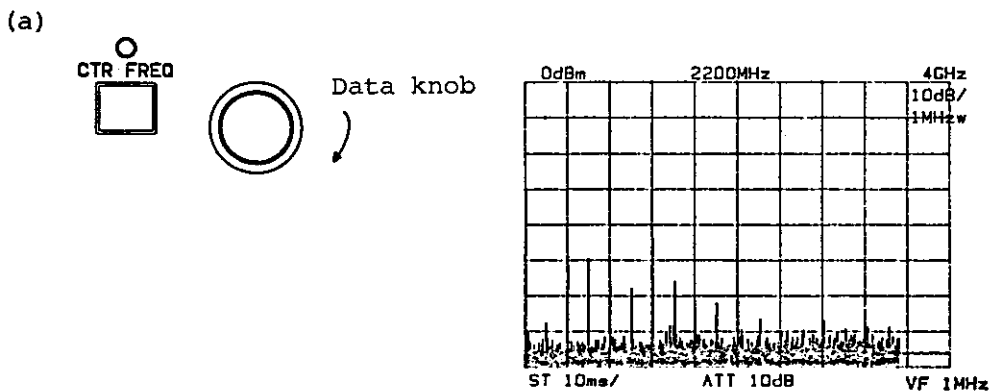

Figure 4-3 CF ADJ
- ③ When the ☐ SHIFT, ☐ CF ADJ keys are pressed, the frequency display remains unchanged, but the spectrum moves to the center and the center frequency accuracy becomes 11 times the CAL OUT signal accuracy. (See Figure 4-3 (c).)
- ④ Input an unknown frequency and read the frequency. (See Figure 4-3 (d).)